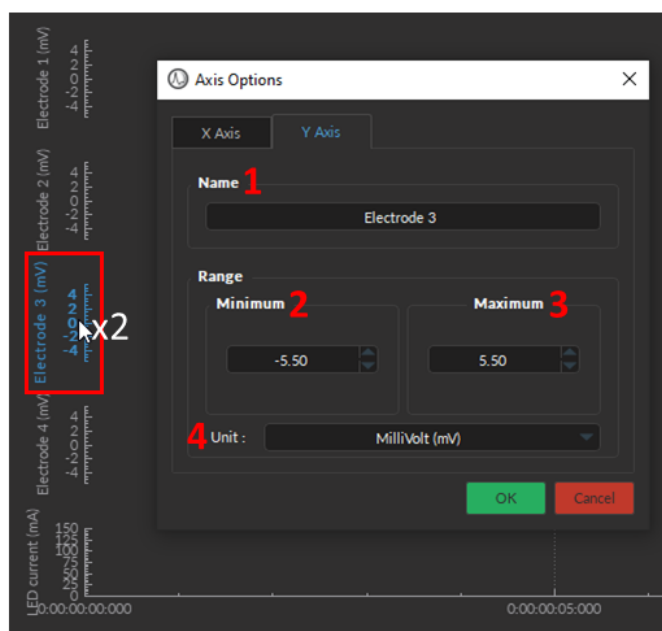

Figure 9.39: Double click on any axis to open its Axis Options window
- **Axis Options** - Each **Graph** (Fig. 9.39) has both a **Voltage** or **State** as the vertical axis and **Time** as the horizontal axis. Double-clicking either axis will open an **Axis Options** window (Fig. 9.39) where the axis limits can be set, similar to the **Zooming Range** in the **View Tab**. Any changes done on a horizontal axis will change the axis limits for every channel.